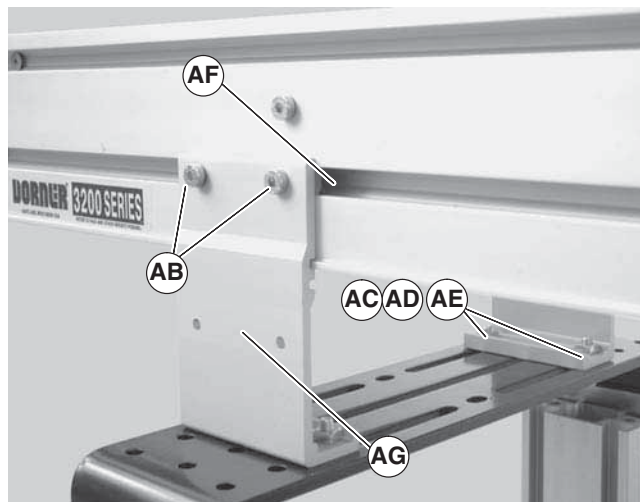

Figure 12
1. Locate return rollers. Exploded views shown in Figure 12.
2. Remove screws (Figure 12, item AH) and clips (AI) from roller assembly.